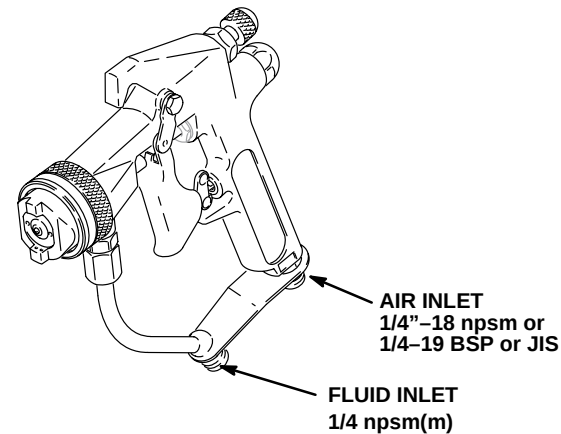

Fig 1 0269
- 4 **Connect an air hose from the compressor to the gun air inlet.** See Fig 1.
- 5 **Connect the fluid hose.** Screw the fluid hose tightly onto the gun and connect the other end to the sprayer fluid outlet. See Fig 1.